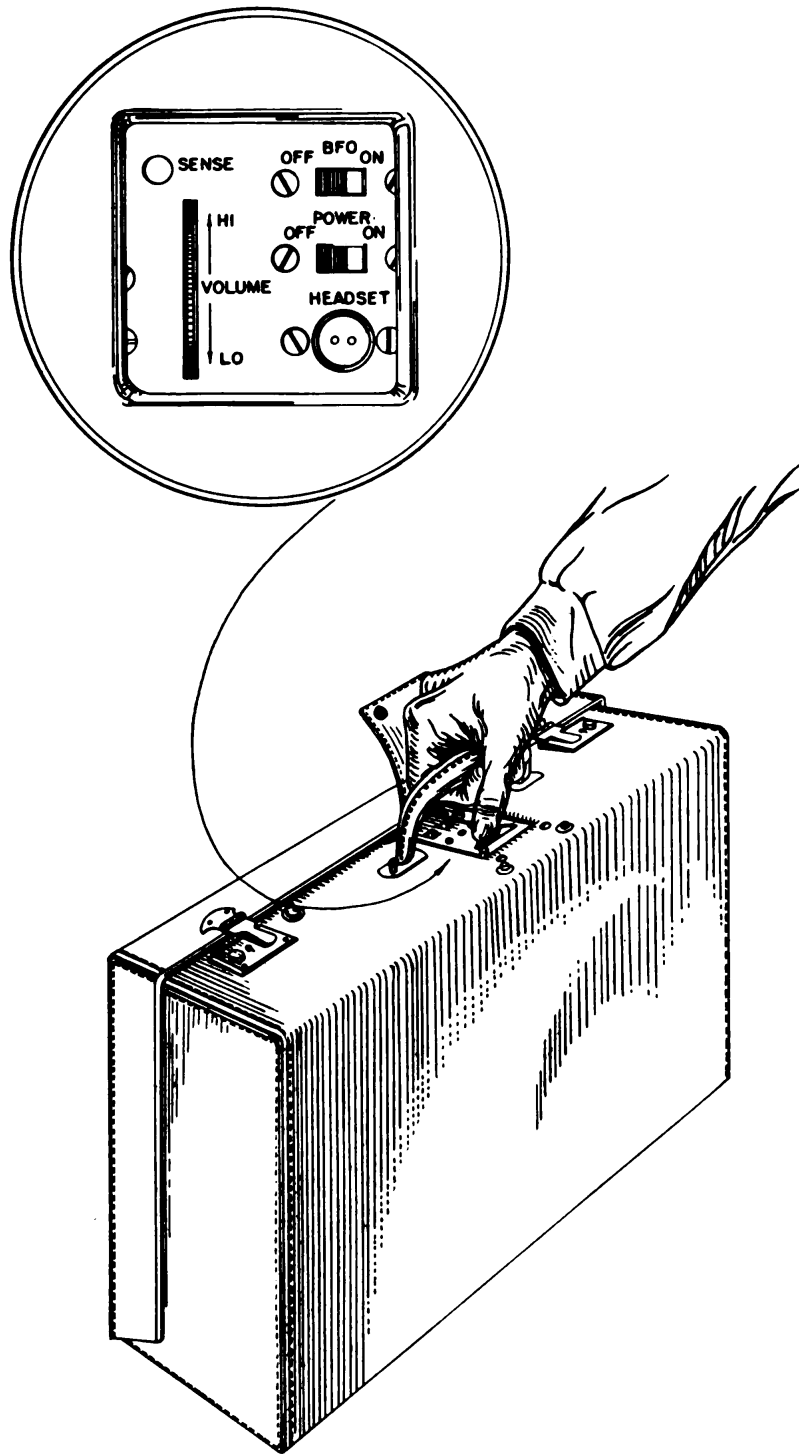

Figure 11. Top of Suitcase with the Flap Up Showing the Control Plate
a. Throw to ON, POWER switch which is mounted on control plate shown in figure 11.
b. Close lid of suitcase making sure you snap both latches and leave leather flap open—don't tuck it under the handle (see figure 11).
b. Throw the BFO switch on control plate under suitcase handle to ON (figure 11).